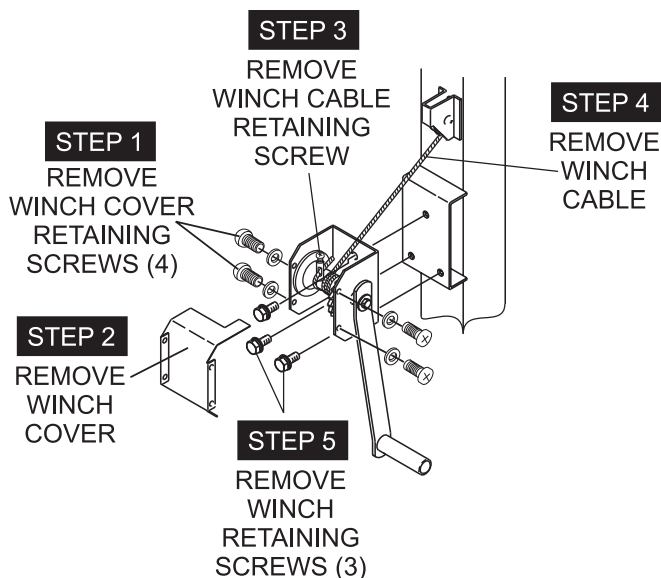

Figure 30. Winch/Cable Removal
2. Remove the four retaining screws and washers (Figure 30) that secure the winch cover. Remove the winch cover.
1. Reinstall the three retaining screws (Figure 30) and washers that secure the winch to the mast. Tighten screws between 24~ 33 ft-lbs. (33 ~ 45 N-m).
2. Install the four retaining screws and washers (Figure 30) that secure the winch cover. Tighten securely.